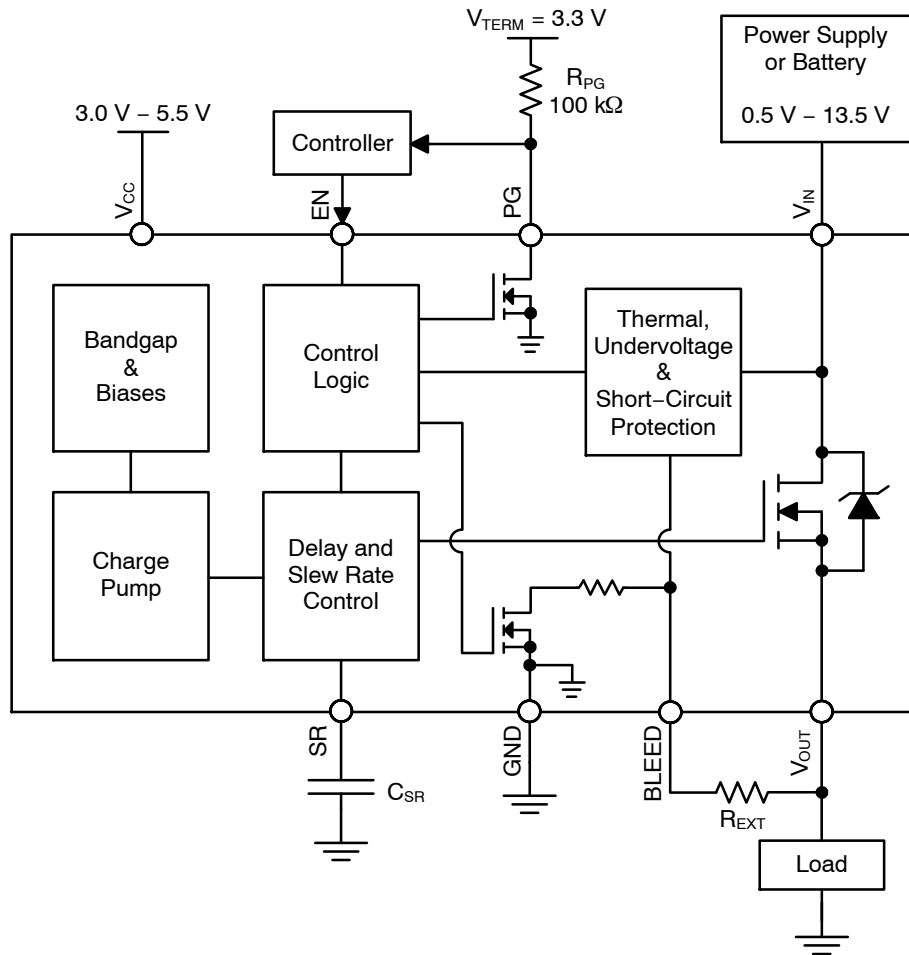
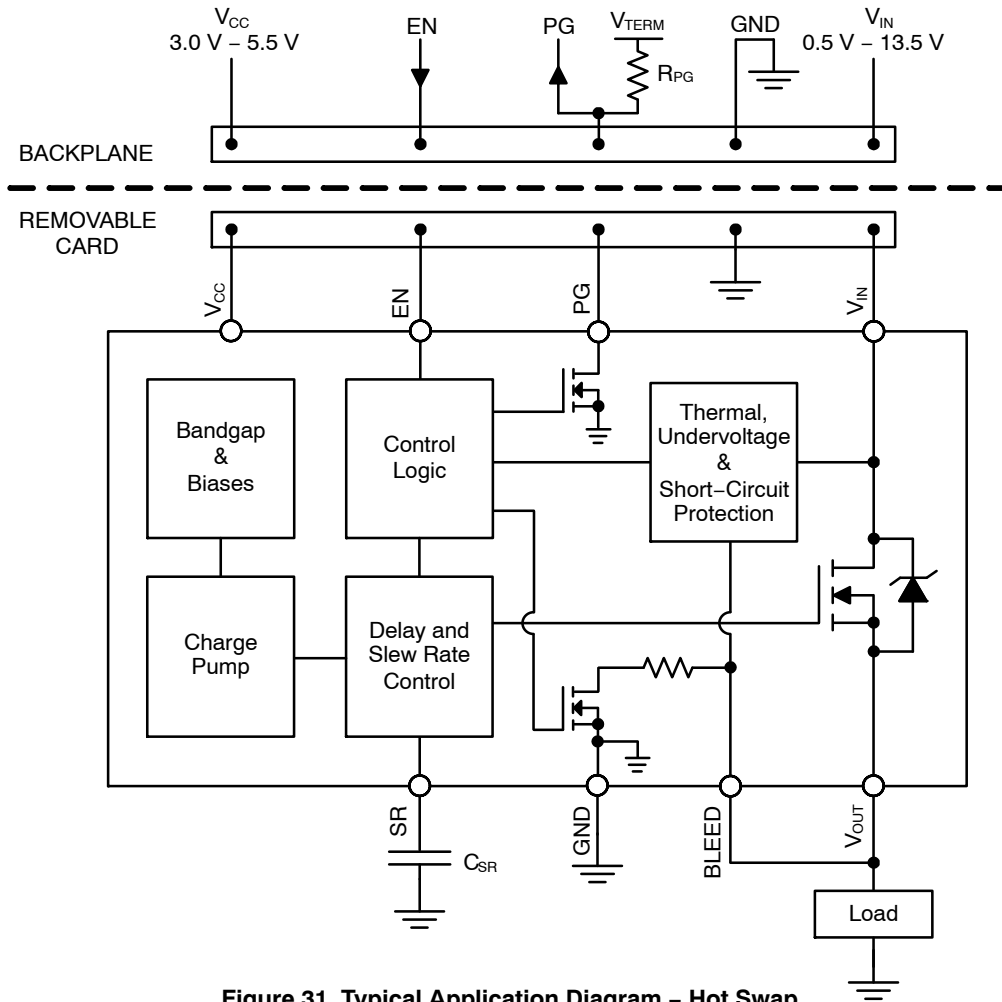

Figure 30. Typical Application Diagram - Load Switch
Figure 31. Typical Application Diagram - Hot Swap
It is required that the BLEED pin be connected to V_{OUT} either directly (as shown in Figure 31) or through an external resistor, R_{EXT} (as shown in Figure 30). R_{EXT} should not exceed 1 k Ω and can be used to increase the total bleed resistance.
The NCP45560 devices have a power good output (PG) that can be used to indicate when the gate of the MOSFET is fully charged. The PG pin is an active–high, open–drain output that requires an external pull up resistor, R_{PG} , greater than or equal to 1 k Ω to an external voltage source, V_{TERM} , compatible with input levels of other devices connected to this pin (as shown in Figures 30 and 31).
The slew rate can be decreased with an external capacitor added between the SR pin and ground (as shown in Figures 30 and 31). With an external capacitor present, the slew rate can be determined by the following equation:
Once active, the circuitry monitors the difference in the voltage on the V_{IN} pin and the voltage on the BLEED pin. In order for the V_{OUT} voltage to be monitored through the BLEED pin, it is required that the BLEED pin be connected to V_{OUT} either directly (as shown in Figure 31) or through a resistor, R_{EXT} (as shown in Figure 30), which should not exceed 1 k Ω . With the BLEED pin connected to V_{OUT} , the short–circuit protection is able to monitor the voltage drop across the MOSFET.